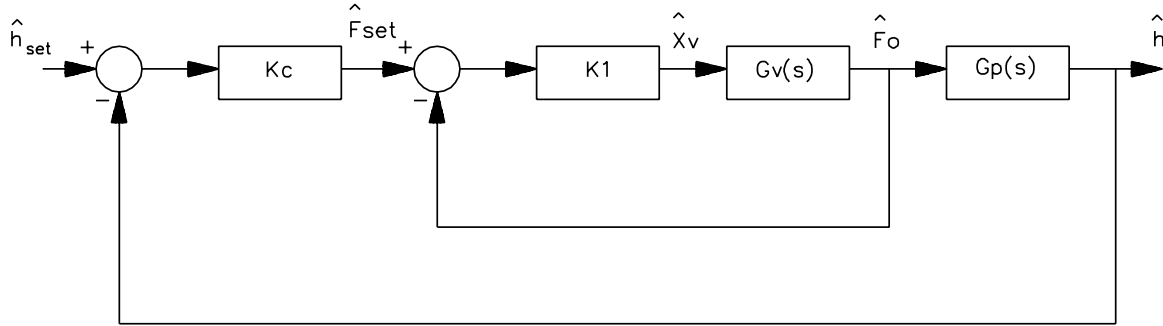

Figure 4: Cascade Control for Reboiler.
- (b) (20 pts) Another common control configuration is to actually split the control to two levels. An inner control loop could be designed to manipulate the valve position x_v to control the flow rate F_o . Then an outer loop could be designed to decide what set point of F_o is given to the inner loop in order to control the height h . This type of configuration is called a cascade control as shown in Figure 4. Suppose the inner loop controller was designed to be a proportional controller having a gain equal to 3. The outer loop is also a proportional controller having a gain equal to K_c which treats the inner loop together with the height dynamics as the process itself. Find the ultimate gain K_u using Routh-Hurwitz method and then use the Ziegler-Nichols prescribed gain, $K_c = K_u/2$, and calculate the resulting per cent offset for a step change in set point.